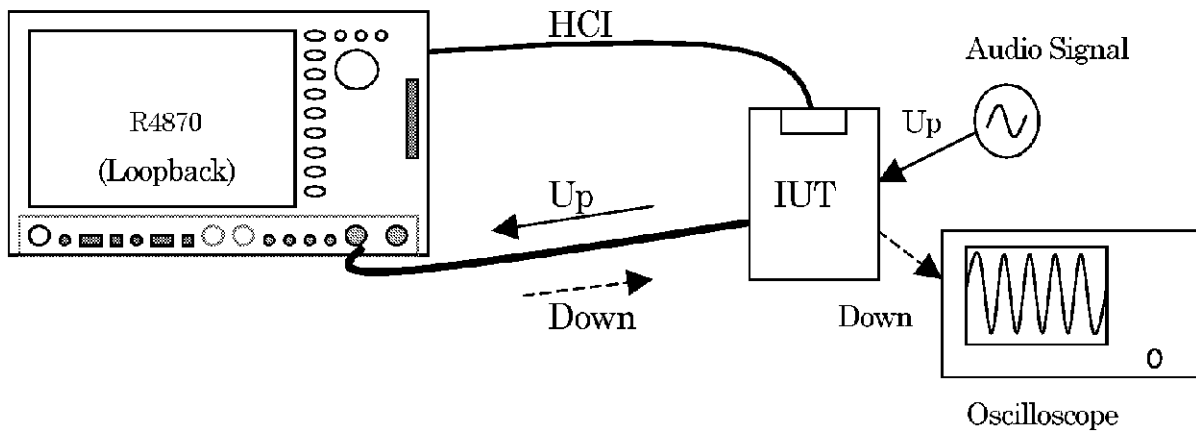

Figure 2-42 Remote Loopback Evaluation
The remote loopback evaluation function is used to evaluate the output signal from the IUT after the Audio signal is input and the loopbacked voice data is demodulated by using the R4870 as shown in Figure 2-42.
1. Connect the IUT to the R4870 as shown in Figure 2-42.